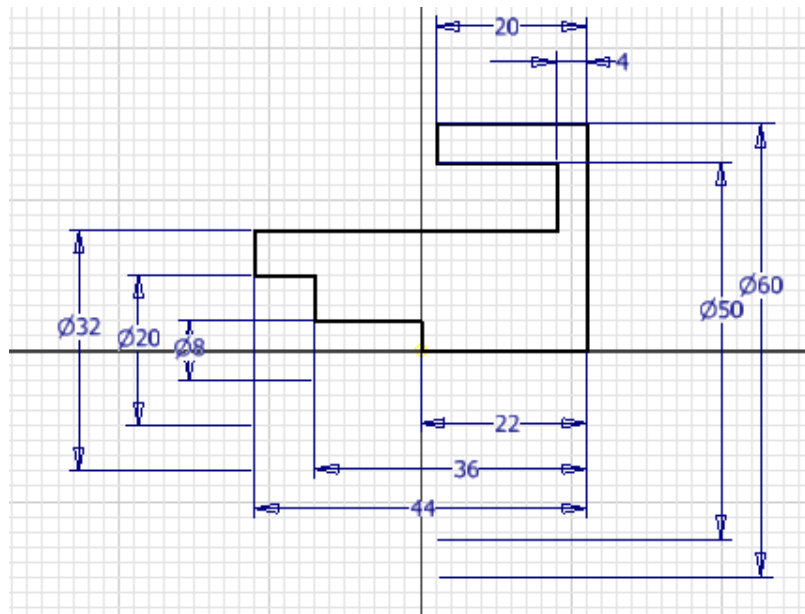

Figure 3-55 Fully constrained sketch for Tutorial 2
- Apply **Coincident Constraint** between the origin and the lower left vertex of the sketch to make it a fully constrained sketch, refer to Figure 3-55.
16. Choose the **Zoom All** tool from the **Navigation Bar > Zoom** flyout to fit the sketch into the drawing window. The fully constrained sketch after adding all the dimensions is shown in Figure 3-55.